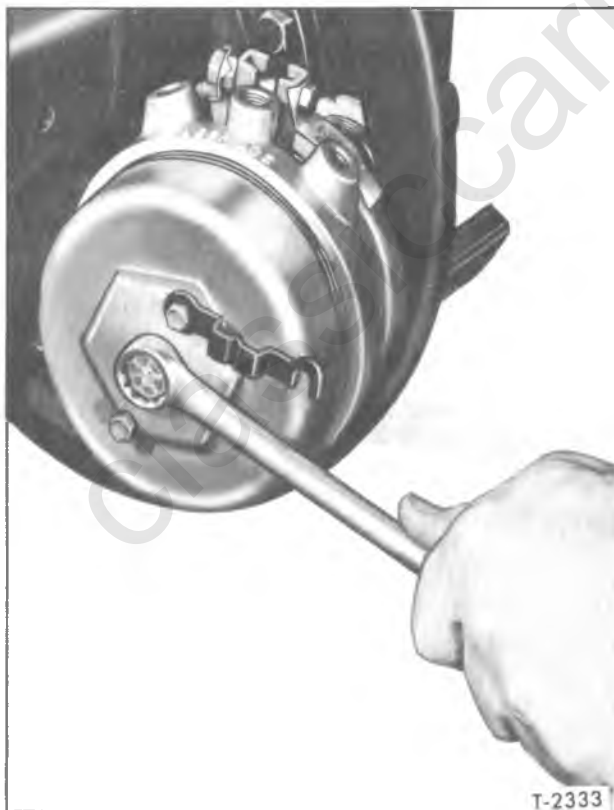

Figure 39—Compressing "Fail-Safe" Power Spring
10. With air in outer chambers, turn release bolt at each chamber (if "Fail-Safe") counterclockwise as far as it will go (approximately 18 turns - see fig. 39). Brakes are now in operating condition, either for service brakes or parking.
remain applied until air pressure is restored. If necessary to move the vehicle before air pressure can be restored, brakes can be released by turning the release bolts clockwise as far as possible (approximately 18 turns) to compress the springs, as shown in figure 39. (This must be done at all "Fail-Safe" chambers at each wheel.) After air pressure has been restored, service brakes will be operative immediately; however, the parking brake will remain inoperative until the spring release bolts are backed out (counterclockwise) as far as possible to release the springs. Push parking brake valve knob in to released position to admit air pressure into the parking brake chambers to hold springs compressed while turning the release bolts.
1. With air pressure in parking brake chamber (brake released), loosen release bolt spring lock and swing to one side; then turn release bolt clockwise as far as it will go (approx. 18 turns) to compress the power spring (refer to fig. 39).
7. Turn release bolt counterclockwise as far as possible (approx. 18 turns) to release spring (see fig. 39). This will leave the parking brake chamber in operating condition.